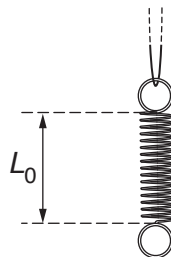

Fig. 1.2
- Measure and record the length L_0 of the coiled part of the spring, as shown in Fig. 1.2.